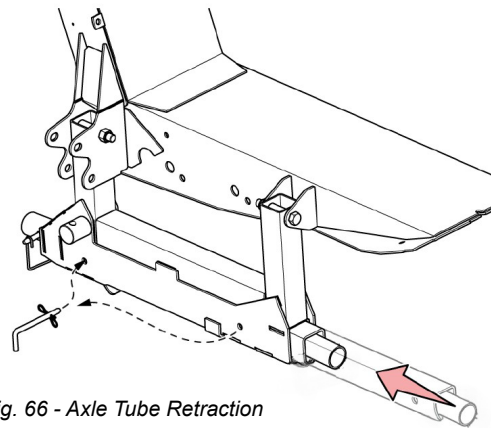

Fig. 66 - Axle Tube Retraction
4. You will see a warning to make sure the Header RPM sensor is installed, configured and functioning correctly and that the MFH/MFP Lever is in neutral. The RPM sensor can be found on the left hand knife drive (see “Fig. 66”). Ensure the gap between the sensor and disc is between 1/32” and 1/16”. When this is set, press “Enter” to continue.